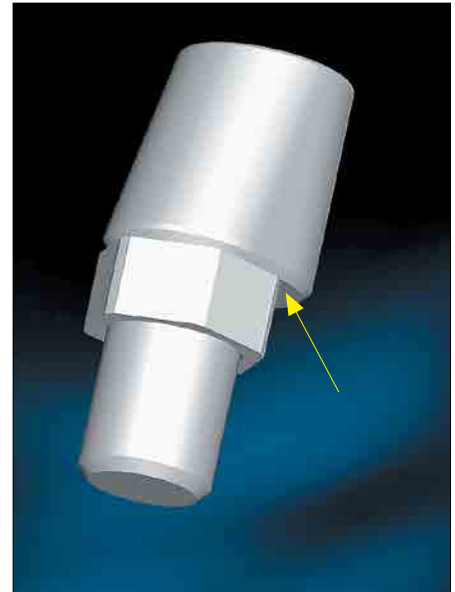

Figure 25
- Ensure jam nut is up against the offset adapter (**Figure 25**)